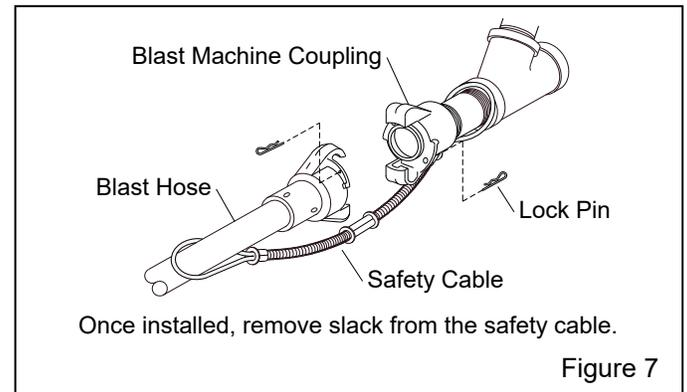

Figure 7
2.6 Connect Blast Hose – Figure 7